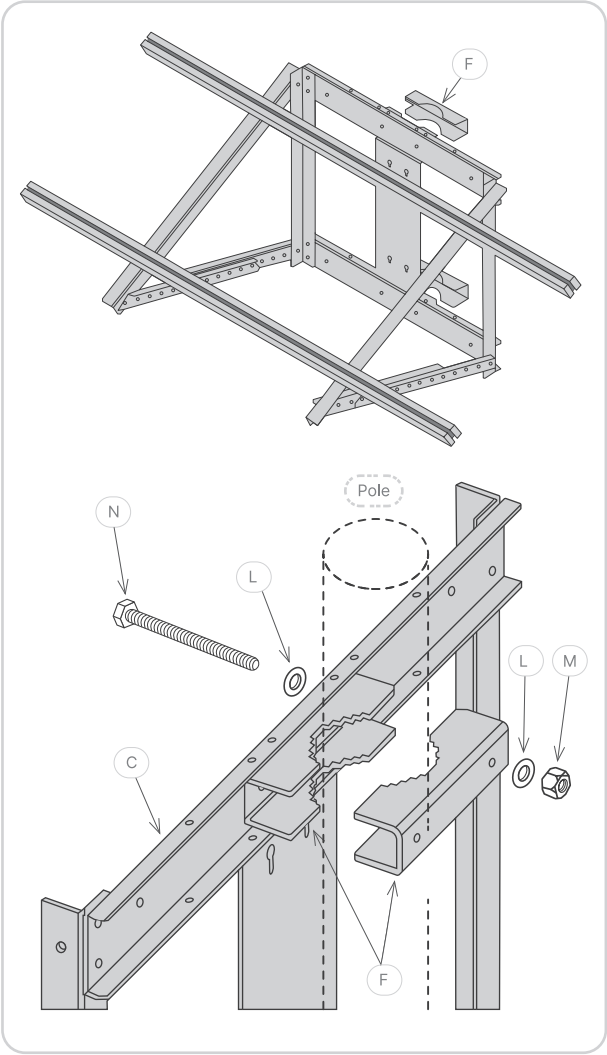

Figure 7. Installation on a pole.
a. For installation on a Pole, refer to Figure 7. Slide the M8 x 180 mm Hex Head Bolt (N) through the holes on the Carrier Bracket (A) and the Pole Brackets (F). Place the structure against a pole and place a second Pole Bracket (F) on the other side of the pole with (L) and (M).